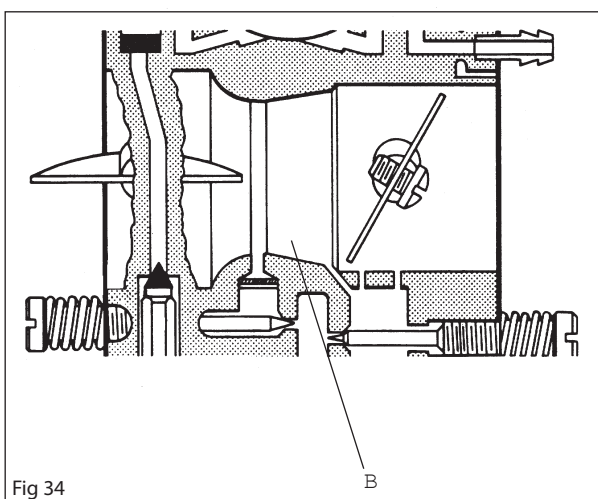

Fig 34
Assemble the pump drive wheel and pump cover as outlined in Figure 34. Assemble the chain guide plate, needle bearing, clutch drum and centrifugal clutch as outlined in Figures 28 and 27.
The mixing venturi houses (B) the choke, throttle valve and diffuser jets. Here, air and fuel are mixed to create a fuel-air mix that can be ignited by the ignition spark. See Figure 34.